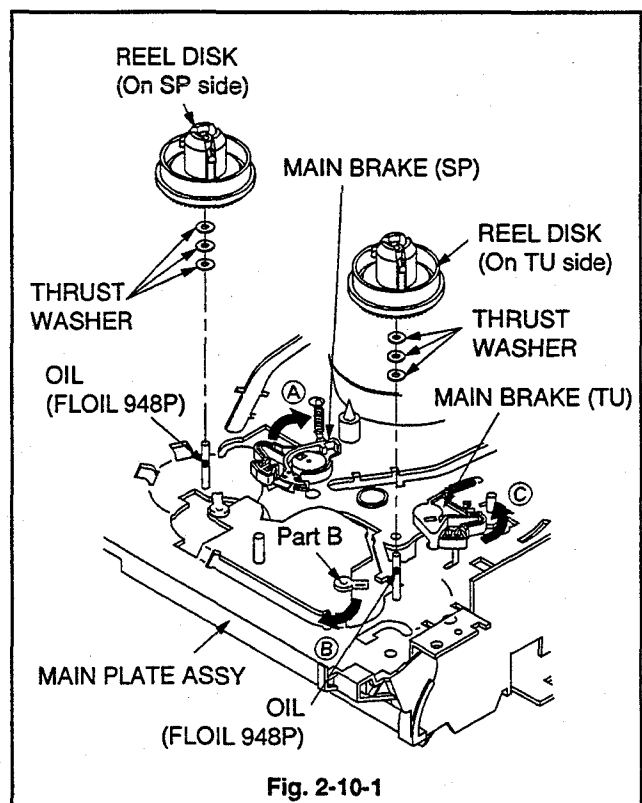

Fig. 2-10-1
1. Move the MAIN BRAKE (SP) in the direction shown by arrow (A) hold it in that position. Remove the REEL DISK (On SP side) as shown in Fig. 2-10-1.
2. Use a minus driver to move Part B in the direction shown by arrow (B), as shown in Fig. 2-10-1.
3. Move the MAIN BRAKE (TU) in the direction shown by arrow (C) hold it in that position. Remove the REEL DISK (On TU side) as shown in Fig. 2-10-1.
1. Apply OIL (FLOIL 948P) [859D154O20] to the shaft, shown in Fig. 2-10-1, for the REEL DISK (On SP side) on the MAIN PLATE ASSY.
2. Install the REEL DISK (On SP side) shown in Fig. 2-10-1.
7. Make sure that the REEL DISK (On SP side), shown in Fig. 2-10-1 cannot come off.
8. Apply OIL (FLOIL 948P) [859D154O20] to the shaft, shown in Fig. 2-10-1, for the REEL DISK (On TU side) on the MAIN PLATE ASSY.
9. Install the REEL DISK (On TU side) shown in Fig. 2-10-1.
13. Move Part B of the MAIN PLATE ASSY in the opposite direction of arrow ㊸, as shown in Fig. 2-10-1 so that it points to the centre of the REEL DISK (On TU side).
14. Make sure that the REEL DISK (On TU side) shown in Fig. 2-10-1 cannot come off.